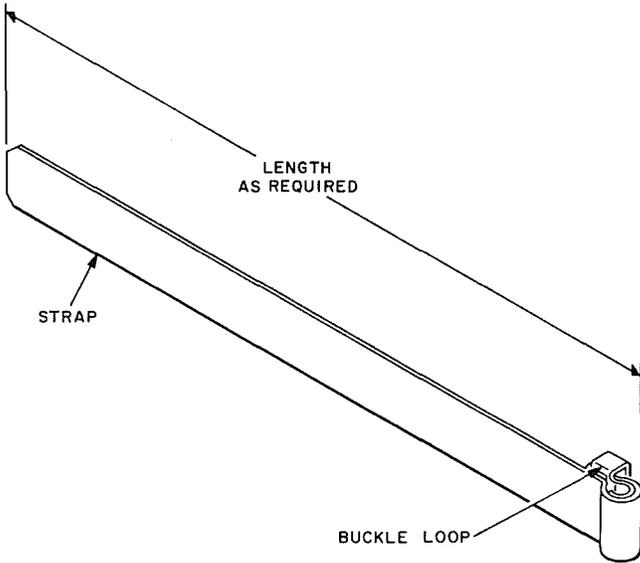

Fig. 3—B Lashed Cable Support
2.03 The B lashed cable support (Fig. 3) is a stainless steel strap $\frac{3}{4}$ inch wide with a buckle loop for holding and terminating the wraps of the strap.